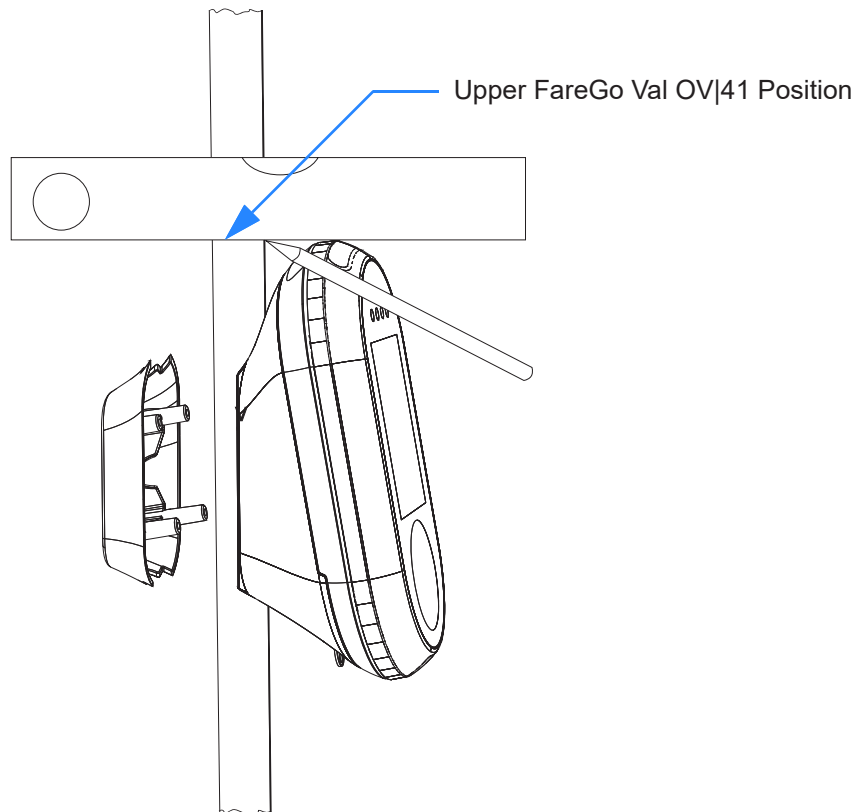

Figure 3-40 Marking Upper FareGo Val OV|41 Position
Step 1 Mark the upper edge of the FareGo Val OV|41 on the pole, see **Figure 3-40**.